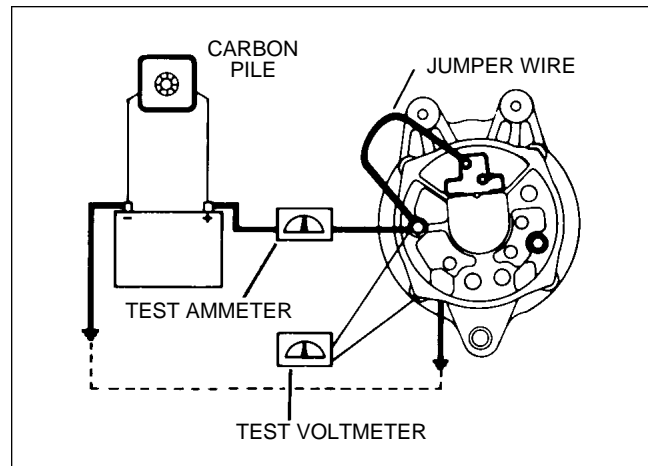

Figure 24-54. Testing Electrosystems Alternator
- a. Wiring connections for bench testing alternator are in Figure 24-54. Refer to Chart 2405 for output test figures. Adjust carbon pile to obtain specified voltage.